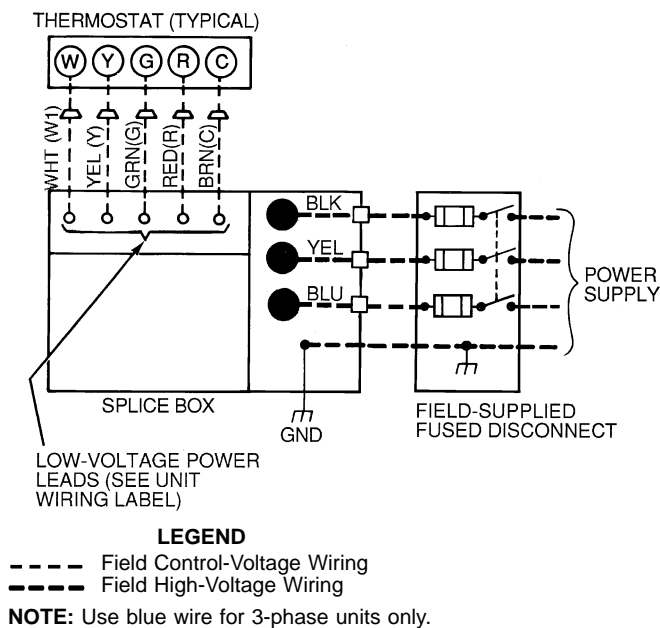

Fig. 21 — High- and Control-Voltage Connections
5. Strip back leads and connect to high voltage leads. On 3-phase units, blue wire is provided stripped back and ready to connect to high voltage lead. See unit wiring label and Fig. 21.
Locate five 18-gage wires leaving control box. These low-voltage connection leads can be identified by the colors red, green, yellow, brown, and white. (See Fig. 21.) Ensure the leads are long enough to be routed into the low-voltage splice box (located below right side of control box); do NOT cut yellow wire on 589A024,030 units. Stripped yellow wire is located in connection box. Route leads through hole in bottom of control box and make low-voltage connections as shown in Fig. 21. Secure all cut wires, so that they do not interfere with operation of unit.
Remove knockout in compressor fixed panel located below high-voltage knockout. Remove the rubber grommet from the installer's packet (included with unit) and install grommet in the knockout opening. Route thermostat wires through grommet providing drip loop at panel. Connect low-voltage leads as shown in Fig. 21. On 589A024 and 030 units, the yellow wire originating from discharge thermostat of compressor must be cut and routed into low-voltage section of junction box.